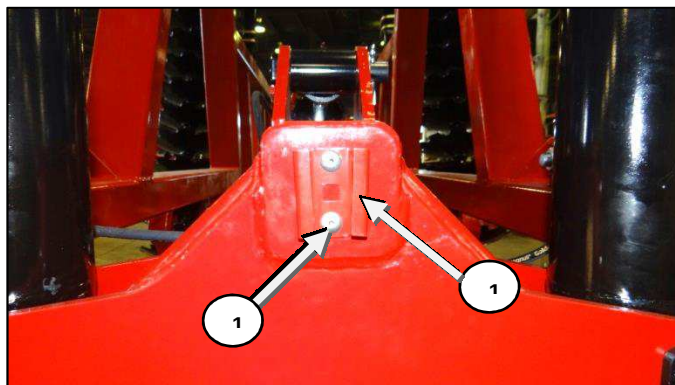

Figure 61
Drill two holes for installing mounting socket for SMV sign (Item 1, Figure 61), Hole size should be 0.257"/ 0.261" and use two rivets 1/4 " x 3/4" flat head (item 2).